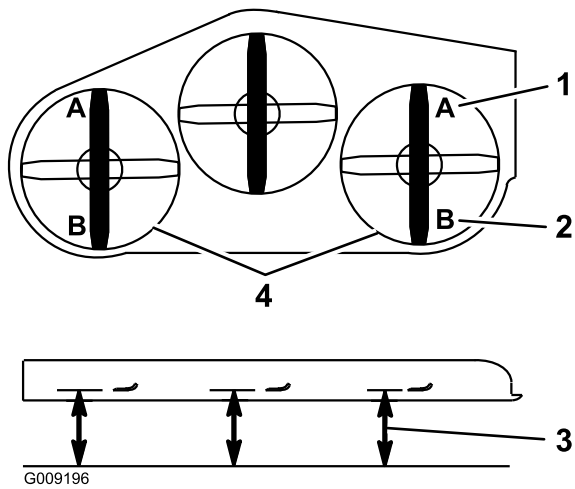

Figure 94
9. On both sides of the deck, measure from the level surface to the front tip of the blade (Position A) as shown in Figure 94.
- On both sides of the deck, measure from the level surface to the back tip of the blade (position B) as shown in Figure 94.